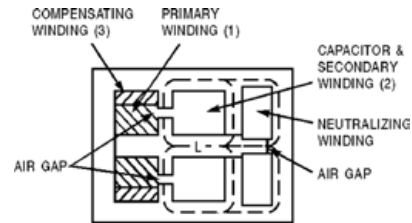

Figure 2
SolaHD ferroresonant products by Emerson consist of a resonant electrical circuit utilizing a high-leakage reactance. The electrical circuit is comprised of four windings (see Figure 2): a primary winding (1), a capacitor (resonant) winding (2), a compensating winding (3) and an output winding (4). The primary and the compensating windings are wound on the center leg of the iron core. The capacitor and the output windings are wound on the same center leg, but isolated from the primary and compensating windings by a magnetic shunt.